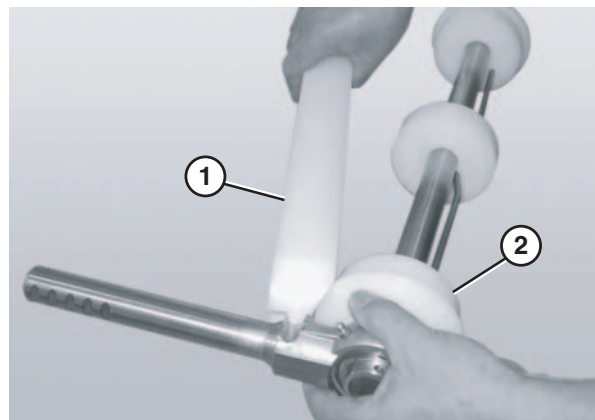

Figure 79
- Attach the flanged pucks (**Figure 79, item 2**) and bearing shaft assemblies to the idler shaft.
- Attach the guard bar (**Figure 79, item 1**).